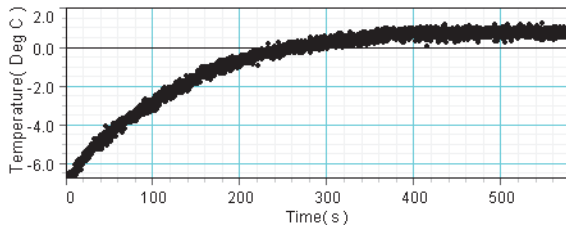

Figure 1.6: Melting ice
- Take a block of ice directly from a freezer and record the temperature as it warms and melts. Display the data on a temperature versus time graph (Figure 1.6).